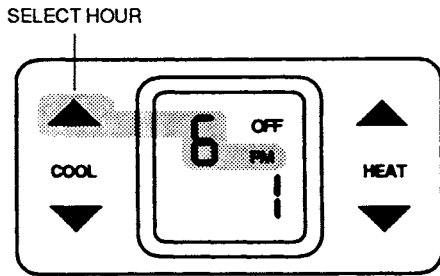

Fig. 15 – Select Hour For OFF Time
6. Press the Select Hour button until the time for the start of the setback period is displayed. See Fig. 15.